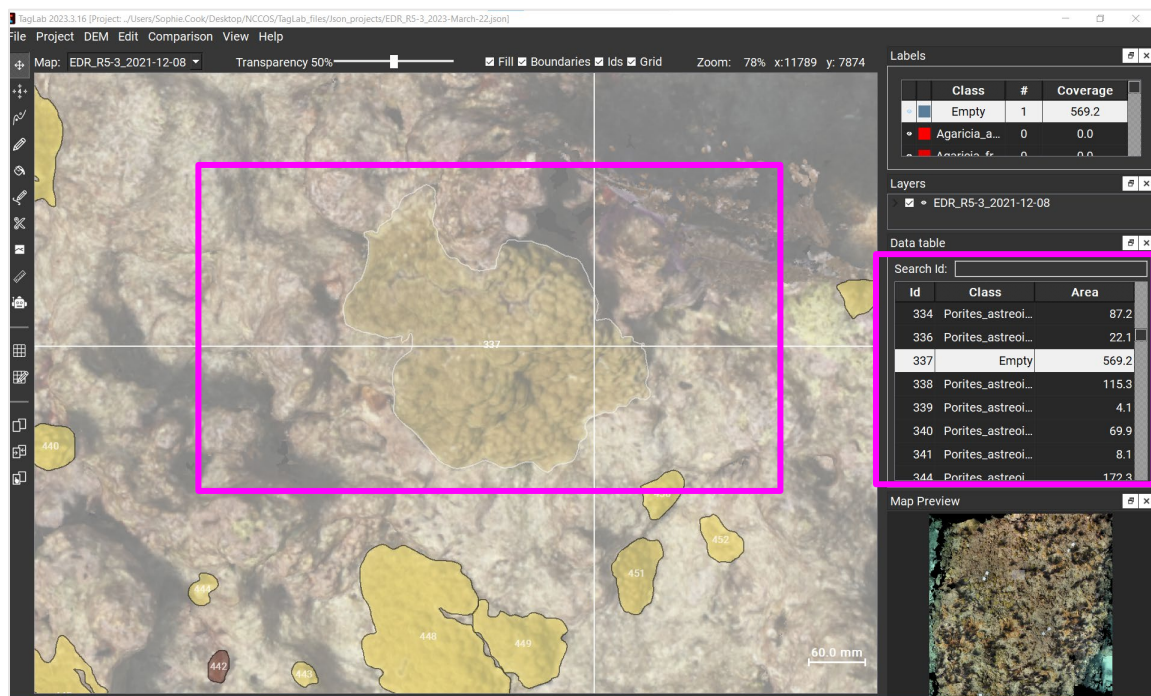

Figure 152. Example of using Empty label from Labels pane as a tool for locating missed annotations.
- If there are any IDs with Empty labels (Figure 151), the ROIs labeled as `Empty` will need to be annotated with the correct label. Zoom in close to the map—anywhere on the map will do, but be sure to zoom in close enough to see an ROI up close. Then, under the Data Table pane, double-click on the ID labeled `Empty` to automatically pan to the location of the unlabeled coral colony (Figure 152).